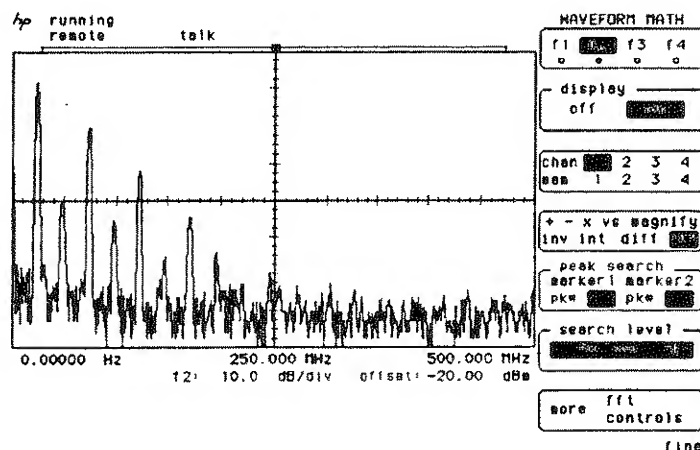

Figure 9-8. FFT Plot of Channel 1 Signal
- Press WFORM MATH to define the function. Select f_2 and turn the display on. Select the fft operator and $chan 1$ operand. The FFT is plotted on the display as in figure 9-8.